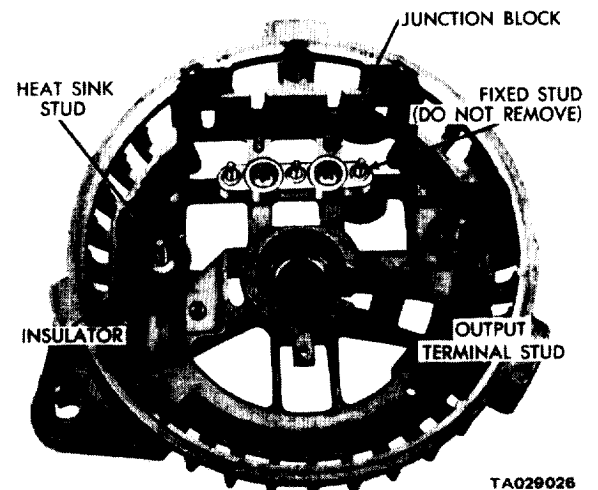

Figure 14-17. Output Terminal Stud and Insulators Installed.
f. If removed, install the output terminal stud and the insulator through the end shield. Be sure the mica insulators are in place and undamaged (figure 14-17).